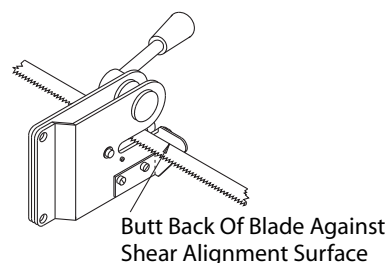

Figure 10 – Blade Cutting
Refer to Figure 10.
2. Lean the back of blade against the shear blade guide when cutting blade ends (See Figure 10).